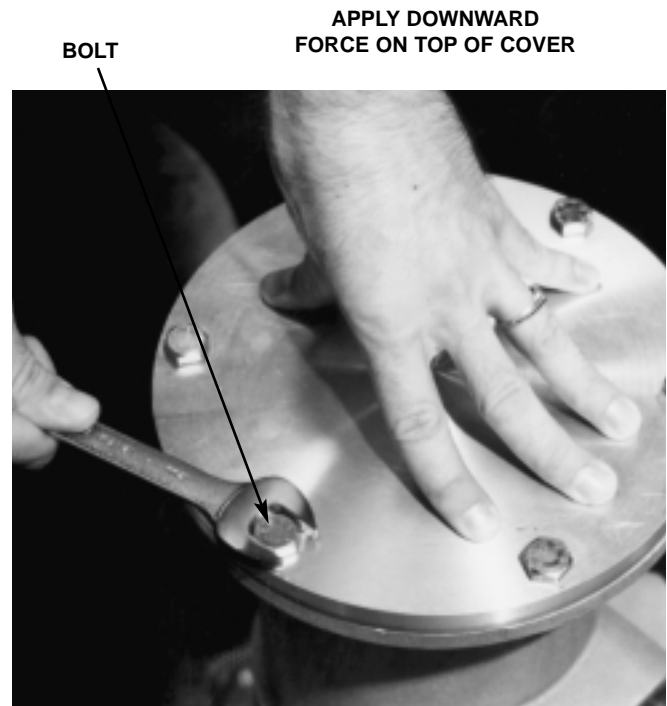

FIGURE 4.13-2 COVER REMOVAL
1. The cover has a spring holding the element in place, so be careful when loosening the bolts. Place downward force, on the cover while removing the 6 bolts and then carefully release the force allowing the cover to be removed (See Figure 4.13-2).